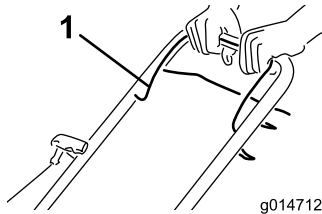

Figure 15
1. Pull the blade-control bar (Figure 15) to the handle and hold it.